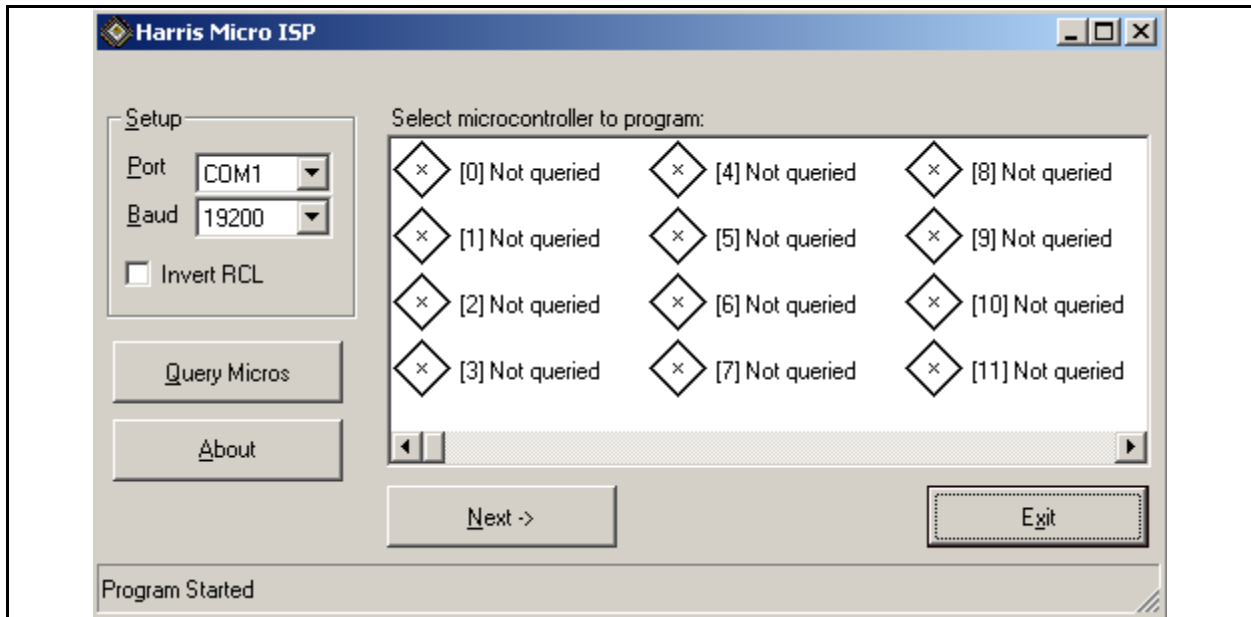
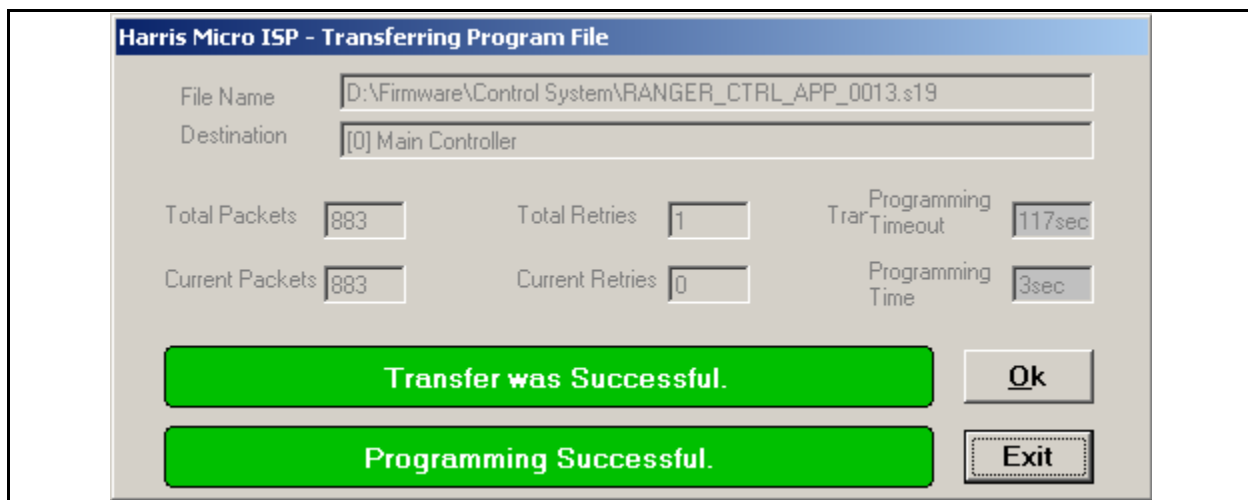

Figure 6-2 ISP Opening Screen
Figure 6-8 Programming Successful
STEP 3 Run the “Harris ISP.exe” program. The window shown in Figure 6-2 should open.
STEP 13 The final screen is shown in Figure 6-8 which shows “Programming Successful”. Press OK to finish the update and get back to the main screen shown in Figure 6-2. **Do not skip STEP 14.**